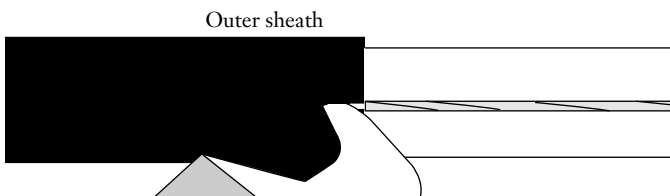

Figure 7
**5.8** Locate the two rip cords. Using the hook blade, cut starting notches in the outer cable sheath (Figure 7).
**5.19** Locate and separate the rip cord from the yarn surrounding the cable core. Cut a starting notch in the inner cable sheath as shown in Figure 7.